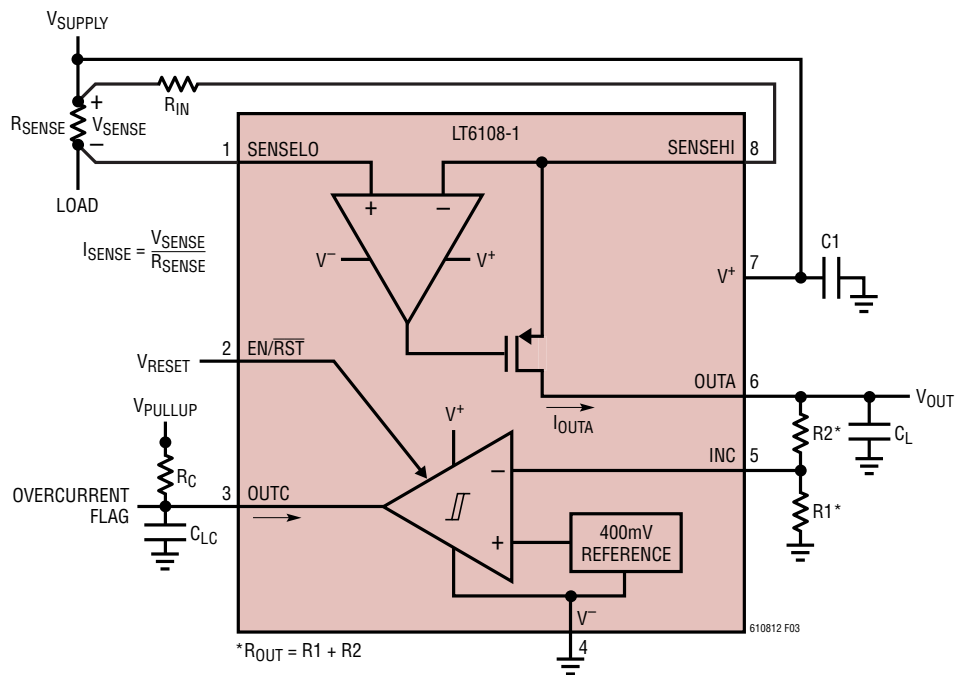

Figure 3. LT6108-1 Typical Connection
**TYPICAL PERFORMANCE CHARACTERISTICS** Performance characteristics taken at  $T_A = 25^\circ\text{C}$ ,  $V^+ = 12\text{V}$ ,  $V_{\text{PULLUP}} = V^+$ ,  $V_{\text{EN}} = V_{\text{EN/RST}} = 2.7\text{V}$ ,  $R_{\text{IN}} = 100\Omega$ ,  $R_{\text{OUT}} = R_1 + R_2 = 10\text{k}$ , gain = 100,  $R_C = 25.5\text{k}$ ,  $C_L = C_{LC} = 2\text{pF}$ , unless otherwise noted. (See Figure 3)
Performance characteristics taken at  $T_A = 25^\circ\text{C}$ ,  $V^+ = 12\text{V}$ ,  $V_{\text{PULLUP}} = V^+$ ,  $V_{\text{EN}} = V_{\text{EN/RST}} = 2.7\text{V}$ ,  $R_{\text{IN}} = 100\Omega$ ,  $R_{\text{OUT}} = R1 + R2 = 10\text{k}$ , gain = 100,  $R_C = 25.5\text{k}$ ,  $C_L = C_{LC} = 2\text{pF}$ , unless otherwise noted. (See Figure 3)
Performance characteristics taken at  $T_A = 25^\circ\text{C}$ ,  $V^+ = 12\text{V}$ ,  $V_{\text{PULLUP}} = V^+$ ,  $V_{\text{EN}} = V_{\text{EN/RST}} = 2.7\text{V}$ ,  $R_{\text{IN}} = 100\Omega$ ,  $R_{\text{OUT}} = R_1 + R_2 = 10\text{k}$ , gain = 100,  $R_C = 25.5\text{k}$ ,  $C_L = C_{LC} = 2\text{pF}$ , unless otherwise noted. (See Figure 3)
An internal sense amplifier loop forces SENSEHI to have the same potential as SENSELO as shown in Figure 3. Connecting an external resistor,  $R_{IN}$ , between SENSEHI and  $V_{SUPPLY}$  forces a potential,  $V_{SENSE}$ , across  $R_{IN}$ . A corresponding current,  $I_{OUTA}$ , equal to  $V_{SENSE}/R_{IN}$ , will flow through  $R_{IN}$ . The high impedance inputs of the sense amplifier do not load this current, so it will flow through an internal MOSFET to the output pin, OUTA.
where  $R_{OUT} = R_1 + R_2$  as shown in Figure 3.
Kelvin connection of the SENSEHI and SENSELO inputs to the sense resistor should be used in all but the lowest power applications. Solder connections and PC board interconnections that carry high currents can cause significant error in measurement due to their relatively large resistances. One 10mm  $\times$  10mm square trace of 1oz copper is approximately 0.5m $\Omega$ . A 1mV error can be caused by as little as 2A flowing through this small interconnect. This will cause a 1% error for a full-scale  $V_{SENSE}$  of 100mV. A 10A load current in the same interconnect will cause a 5% error for the same 100mV signal. By isolating the sense traces from the high current paths, this error can be reduced by orders of magnitude. A sense resistor with integrated Kelvin sense terminals will give the best results. Figure 3 illustrates the recommended method for connecting the SENSEHI and SENSELO pins to the sense resistor.